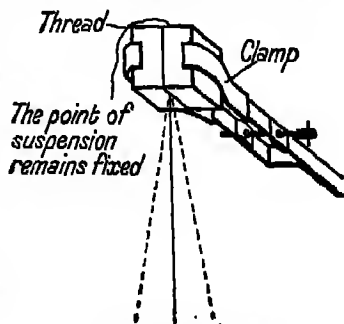

FIG. 133. How to suspend a pendulum.
**Expt. 223.** Fit up a pendulum as shown in Fig. 133. It consists of a long thread supporting a metal ball. The method of suspension is important. Pass the thread through the halves of a split cork. Clamp these tightly together and support on a retort stand. This is to ensure that the pendulum is suspended from one point and that the point of suspension does not change as the pendulum swings. Mark the position of the bob when at rest. Allow the pendulum to swing. The *amplitude* of the swing is the distance from the central position to either extreme. A complete swing is the motion of the pendulum bob from the central position until the next passage of this position in the same direction. This is called one *oscillation*. (See vibration, p. 470.)